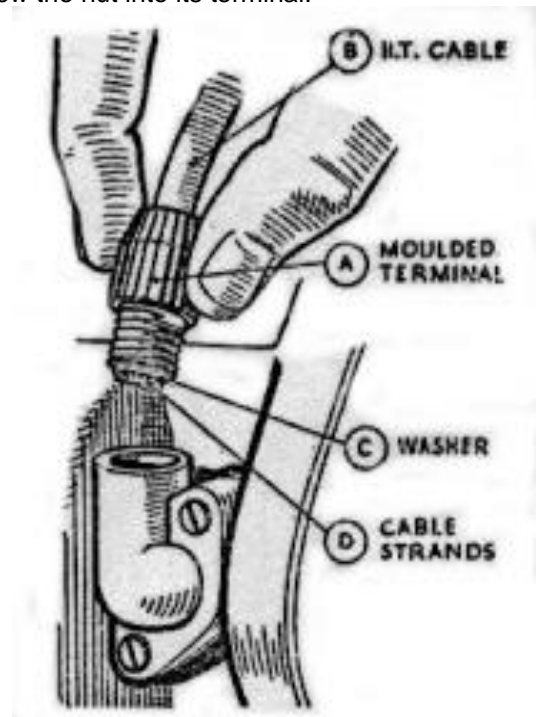

Fig. 48. Pick-up terminal.
Should be 7mm in diameter. Other sizes such as 5mm and 9mm will not fit in the immobiliser and suppressor. The cable must be replaced if the rubber insulation has perished or shows cracks and becomes brittle. To fit the new cable to the pick-up terminal (Fig. 48) thread the knurled moulded nut (A) over the lead (B), bare the cable for about 1/4 ", thread the wire through the metal washer (C) removed from the old cable and bend back the strands (D). Finally, screw the nut into its terminal.